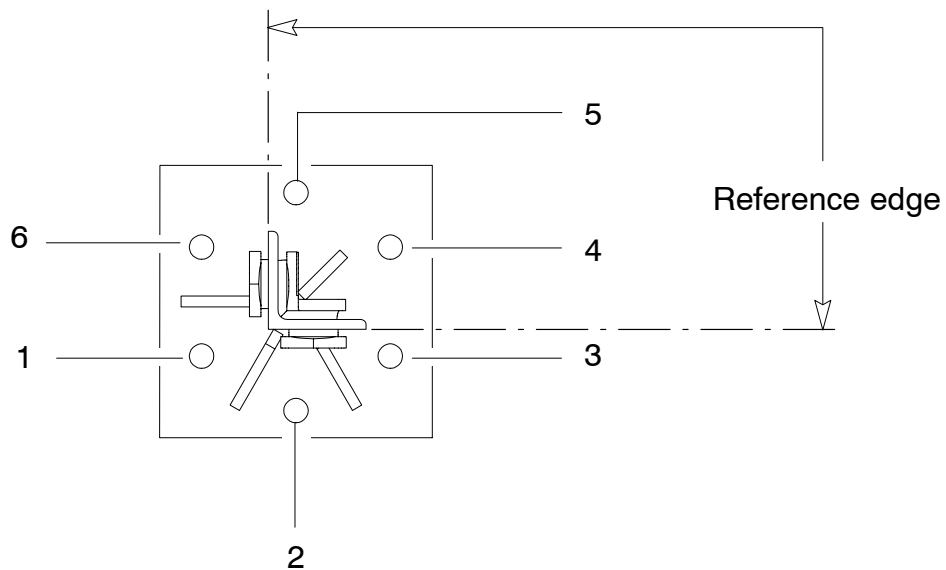

Figure 1
- ☐ 4 rods – use the holes 1, 3, 4, 6 (Figure 1)
- ☐ 6 rods – use the holes 1, 2, 3, 4, 5, 6 (Figure 1)